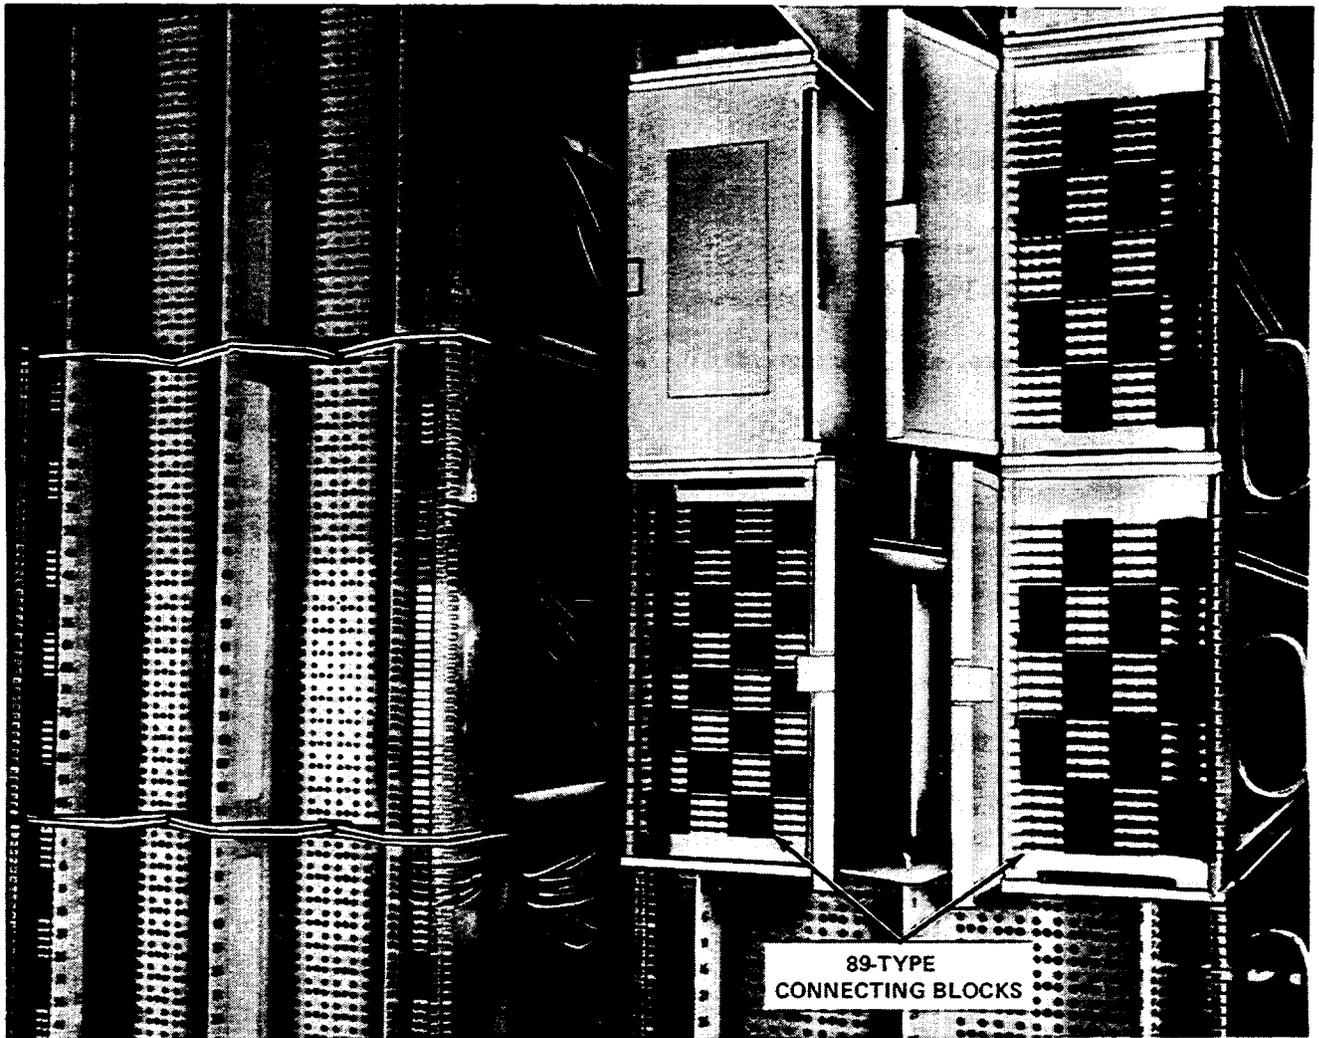

Figure 33—Mounted 89-Type Connecting Blocks
9.01 The new redesigned 89-type connecting blocks can be mounted on the bivertical arrangement with the 309-type connectors (Figure 33). Mounting brackets are available to accommodate four 89F2A-100 connecting blocks on each frame vertical.